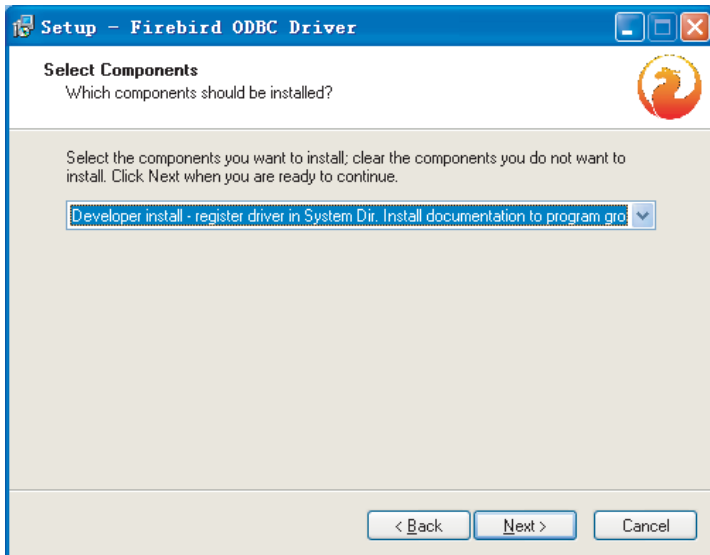

Fig. 2-19
5) Installation window as Fig. 2-19, select the items as Fig. 2-19, and click “Next” to continue the next step installation: